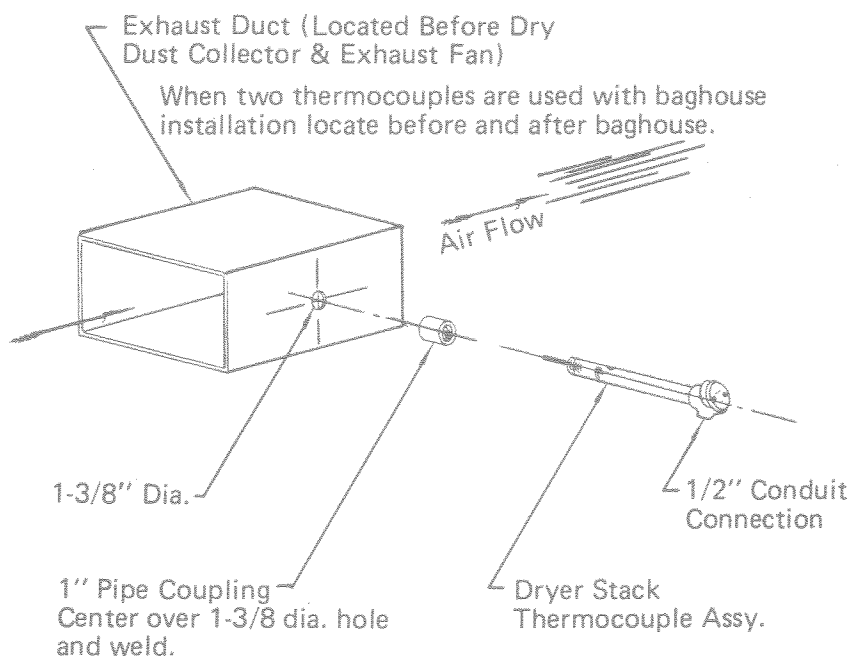

Fig. 1 - Drawing showing placement of thermocouple in exhaust duct.
4. Install the Hauck stack temperature thermocouple, as applicable, in the dryer exhaust duct to sense exhaust gas temperatures. Install the thermocouple as detailed in figure 1.